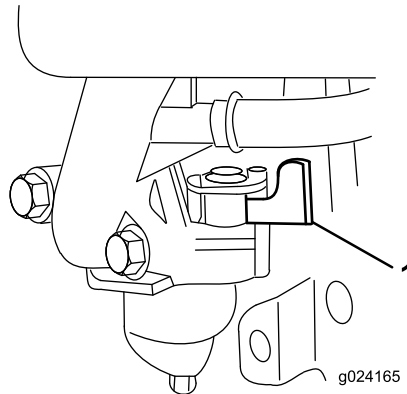

Figure 15
2. Open the fuel valve by moving the fuel-valve lever to the **right** (Figure 15).
Note: Close the fuel valve by moving the fuel-valve lever (Figure 15) to the **left** if you will not be starting the engine soon afterward.